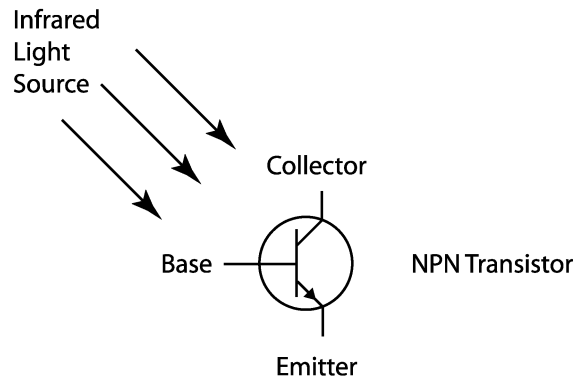
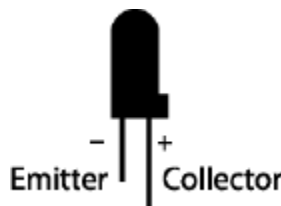
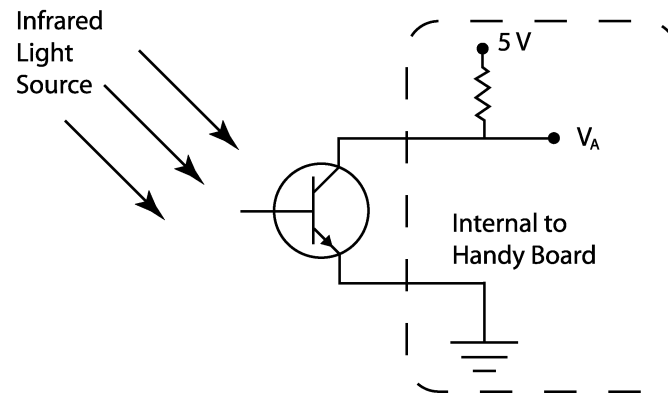

Figure 1: Schematic of an infrared detecting phototransistor.
Figure 2: An infrared detecting phototransistor.
Figure 3: The IR sensor and Handy Board combining to form a voltage divider.
Photosensors come in a variety of types, but the one thing that they all have in common is that they are used to detect the presence of some kind of light. Some are used to detect visible light; some detect ultraviolet light; the photosensors we use in lab, however, detect infrared light. These infrared sensors are sometimes referred to as infrared (IR) detectors. The photosensors used in this lab are infrared detecting phototransistors as depicted in Figure 1 below.
Before using these IR sensors with the Handy Board, the user must understand how to properly connect the IR sensor and the Handy Board and how they behave when connected. Start by examining the IR sensor and determining which of its two leads are respectively the emitter and the collector. Figure 2 depicts the difference between the two; remember that the collector lead is longer than the emitter, and that the emitter side of the sensor has a flat face. Once these leads are identified, the IR sensor is connected to one of the Handy Board analog input ports according to Figure 3 below.
Once the sensor is in place, the internal voltage supply and pull-up resistor of the Handy Board combine with the sensor to form a voltage divider that determines the voltage, V_A , read by the Handy Board's eight-bit ADC (see Figure 3 above). To determine the infrared light level, use the `analog(p)` command where *p* is an integer indicating which analog port to sample (refer to the number printed on the circuit board below the port). An integer will be returned that corresponds to the voltage, V_A , which is proportional to the effective resistance of the light sensor. In other words, in the absence of infrared light, the effective resistance of the sensor will be relatively high returning an integer near 255; when the sensor is saturated with infrared light, the integer returned will be very near zero. Recall that the analog-to-digital converter in the Handy Board will always return an integer value between zero and 255. It may not be very intuitive, but the integer returned from the `analog(p)` command is inversely proportional to the infrared level present.
- 2) Insert the collector of an IR sensor into an analog input port, and insert the emitter into the ground bus. Refer to Figure 2 above to help determine which lead is the anode and which is the cathode.
The plot will come up in a new window labeled Figure 1. Save the plot to your disk and compare your plot with Figure 2 of the IR sensor datasheet (a link to the datasheet is included on the Lab Handouts page of the class website).